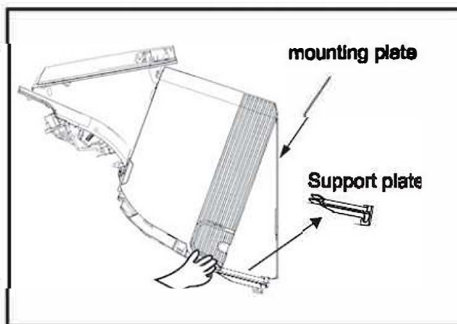
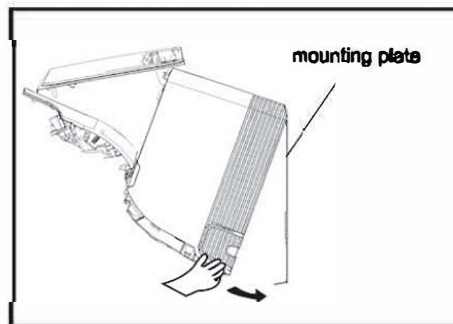

Fig.423
Fig424
9) Remove the support plate as shown in Fig. 423. Then move the unit step by step to reach the best installation, then press the 2 buckles of the air duct into 2 down slots of the mounting plate. (Fig.424 and Fig.425)